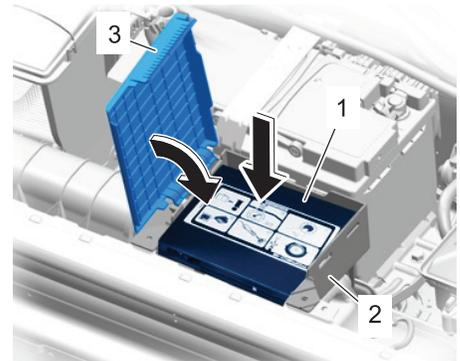

Fig. 12 Compressor installation
10. Engage cover (3) in holder for compressor and close it, **Fig. 12**.